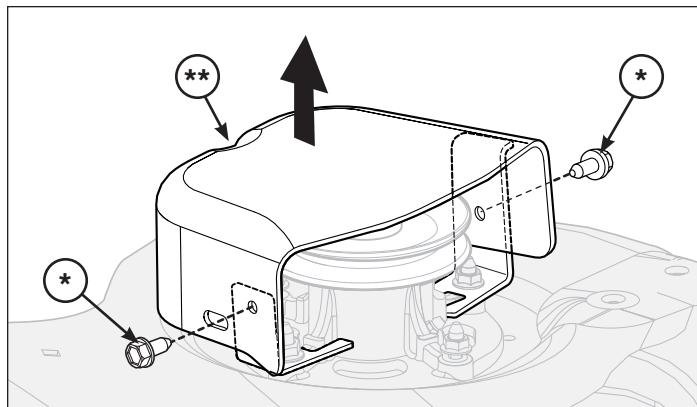

Figure 2
1. Remove screws (*, Figure 2) and belt cover (**).